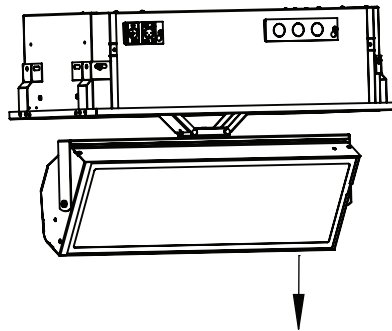

Figure 9
- With the carriage in hand, allow the carriage to drop down from the main housing (Figure 9).